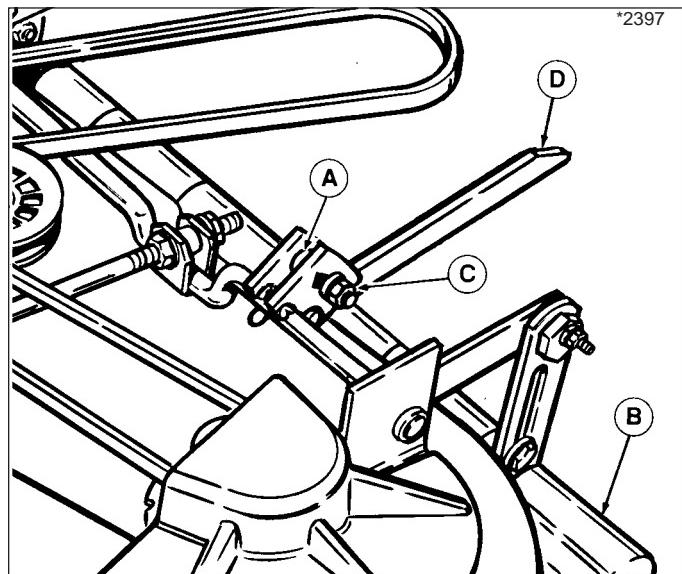

Figure 26. Trailing Arms
- Loosen nut (C, Figure 26) so trailing arms are loose. Mower must be resting on rollers with no weight on trailing arms.